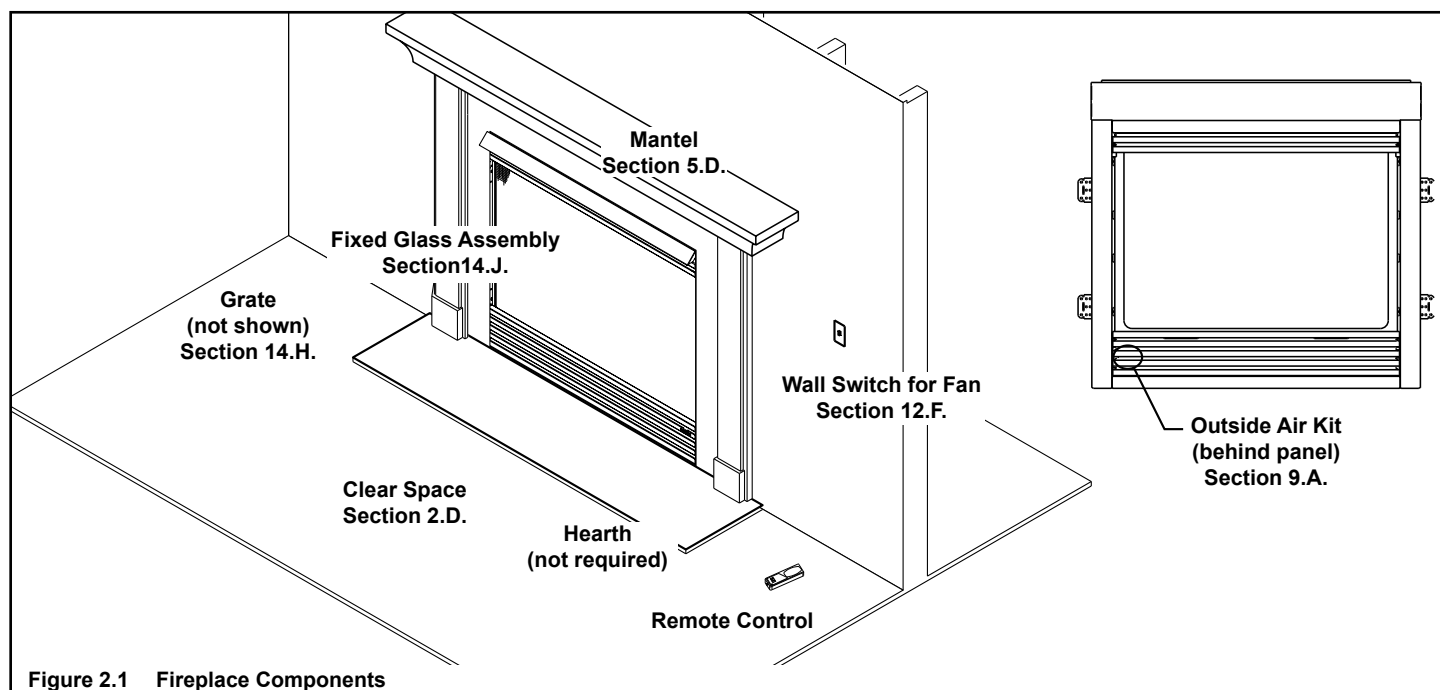

Figure 2.1 Fireplace Components
- Refer to Figure 2.1 for location of control.